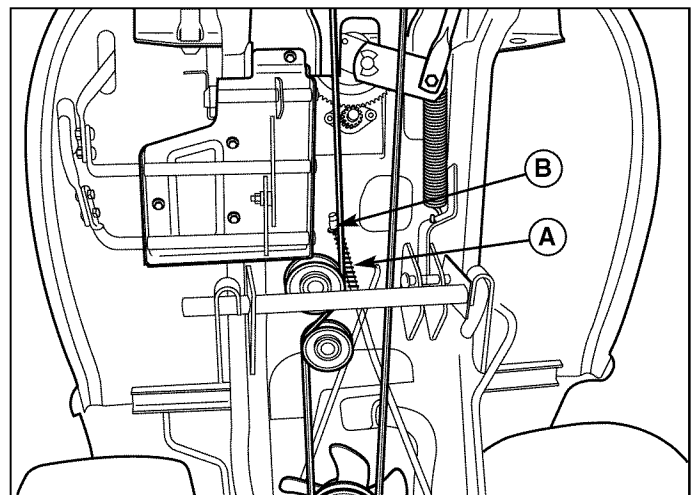

Figure 47. Brake Spring Adjustment
3. Locate the brake spring (A, Figure 47) and adjustment nut (B).
If the spring is not within this range, turn the adjustment nut (B, Figure 47) to compress or release the spring.